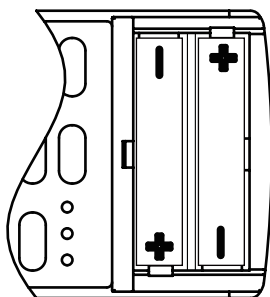

Figure 2.7
3) Take out the old battery and install two new AAA batteries matching the indicated polarity (see Figure 2.7). Close the battery cover.